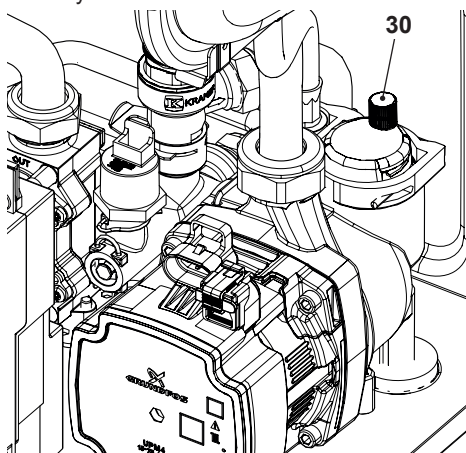

Fig. 7.2
- Loosen the cap on the automatic air purger valve 30 in Fig. 7.2 and leave open permanently.